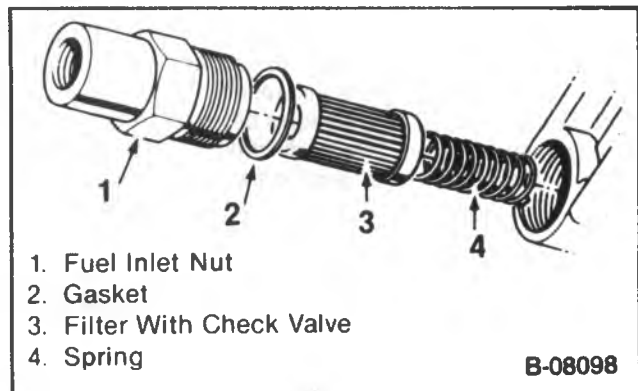

Figure 1 — Carburetor Fuel Filter
Internal fuel filters are located in the inlet fitting of the carburetor (Figure 1). The filter element (3) is placed in the inlet hole with the gasket (2) surface outward. A spring (4) pushes out against the element and compresses the gasket (2) against the fuel inlet nut (1). A check valve is also built into the filter element.
Remove or Disconnect (Figure 1)
Install or Connect (Figure 1)